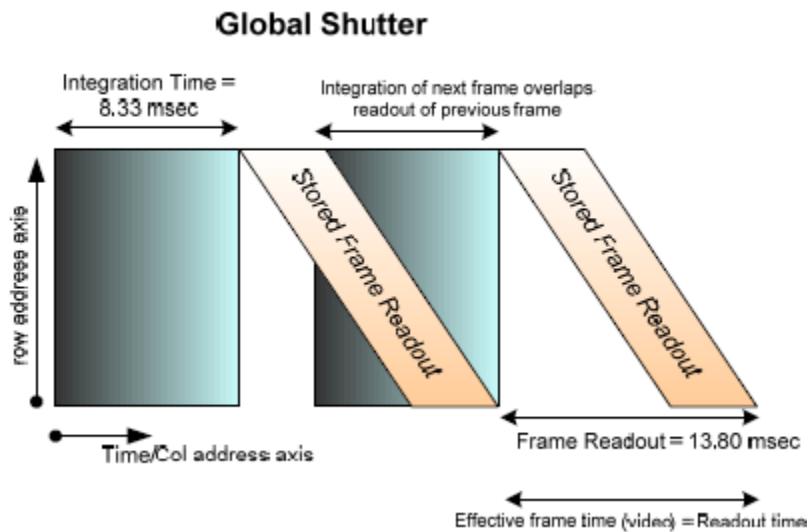
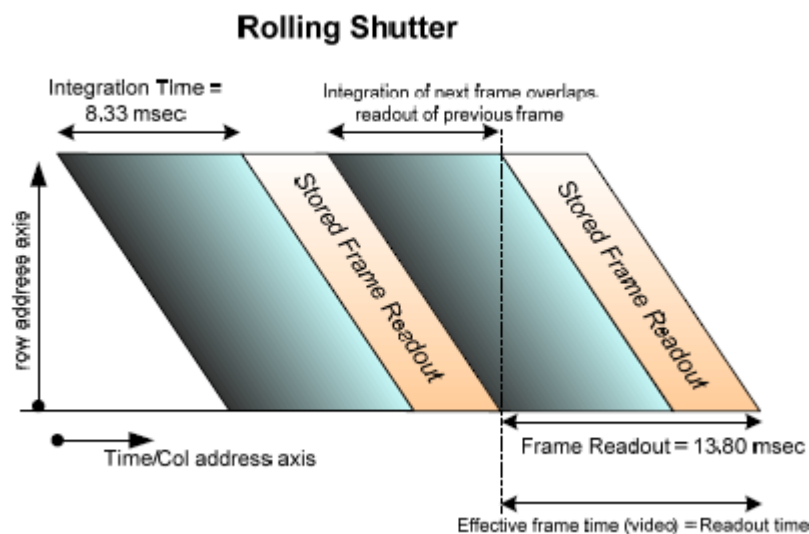

Figure 1.0a: Global Shutter Description
Figure 1.0b: Rolling Shutter Description
Cheetah C4080 and C2880 cameras support both global and rolling shutter readout mode. In Global Shutter (GS) mode every pixel starts and stops integration at the same time. This mode is excellent for clean capture of moving scenes without the need for a mechanical shutter. When global shutter mode is used, all pixel data is stored in light shielded regions within each pixel and held there until readout. (Figure 1.0a) In Rolling Shutter (RS) mode each row of the image sensor is captured at a slightly different time. (Figure 1.0b) This can cause distortions in the image, if an object is moving very quickly and the integration time is short with respect to the frame readout time. In rolling shutter mode, pixels in a row are cleared of charge, allowed to integrate for the required exposure time and then the entire row is readout. The resetting of each row ripples through the array and each row is exposed with a slight time delay (equal to the line readout time) relative to the previous row. In RS mode, the transistor within each pixel used to provide global shutter capability is used to provide noise reduction.